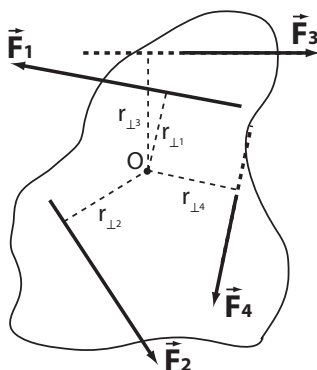

Figure 1: Torques about the point 'O'
The forces acting on a planar body are shown in Figure 1. An arbitrary point 'O' about which to sum the torques has been chosen and the *lever arms* (perpendicular distances from the lines of action of each of the forces to the chosen point) have been drawn. In this example, $\vec{F}_1$ and $\vec{F}_2$ will tend to rotate the body in a counter-clockwise (positive) direction about point O while $\vec{F}_3$ and $\vec{F}_4$ will tend to rotate the body in a clockwise (negative) direction. The second condition for equilibrium will be satisfied if the algebraic sum of the four torques is zero. For the above example
8. **Choose & label a pivot point ‘O’** that is INSIDE the outline of your plate about which to sum the torques. Any point *should* work BUT to reduce error **DO NOT CHOOSE** the centre of gravity (CG) or a point which lies within 1 cm of the line of action of ANY of the forces.
9. Using a sharp pencil, a ruler, and a triangle, **draw perpendiculars** from the (extended) lines of action of the forces to the point ‘O’. Label the perpendicular distances from each of the force lines to the point ‘O’ as $r_{\perp i}$ (as shown in Figure 1). **PROPERLY measure these distances (in cm) and record your $r_{\perp i}$ values (in m) in the table.** Show ONE sample calculation below the table.